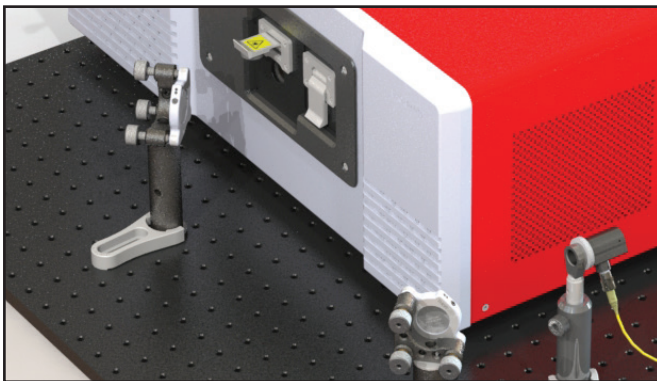

Figure 4: An example free-space setup for a fiber-coupled source.
- To simplify alignment, two mirrors in kinematic mounts should be used, where one mirror is placed close to the input port of the OSA and the other near the optical source. One example of how the mirrors can be positioned for a fiber-coupled source is shown in Figure 4. Note that a reflective collimator should be used, since refractive optics are inherently dispersive and will disturb the wavelength composition of the input light.